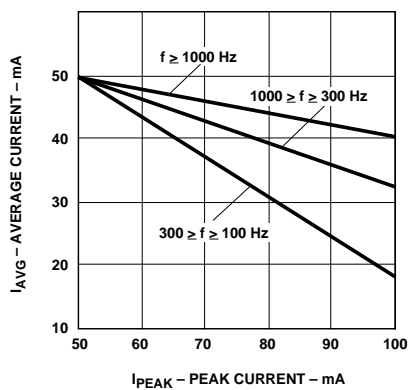

Figure 6. Time Average Current vs. Peak Forward Current as a Function of Pulsed Refresh Rate, f (Hz).
2. Refer to Figure 6 to establish pulsed operating conditions.